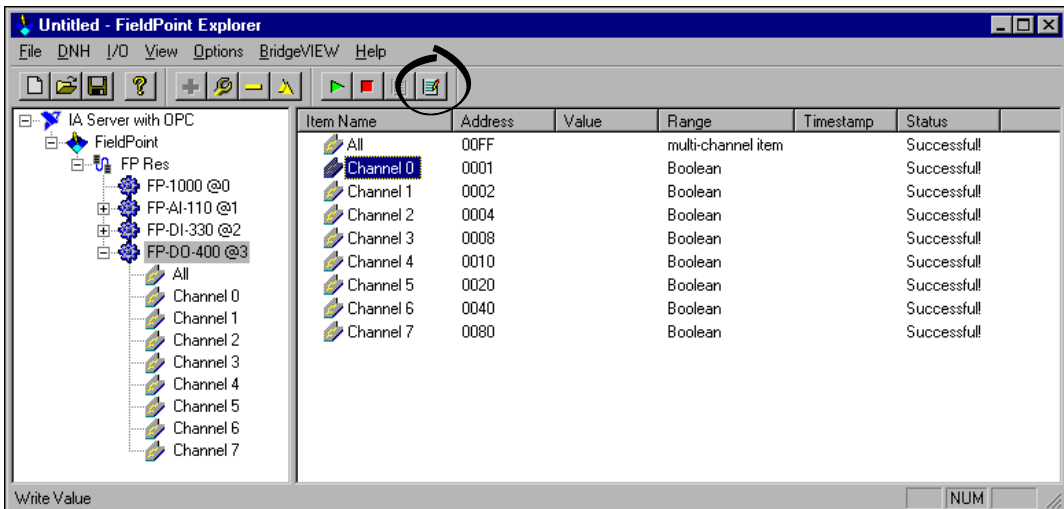

Figure 10. Items of the FP-DO-400 @3 Device
- Double-click on the **FP-DO-400 @3** device. The right section of the Explorer window displays the items, or channels, that are configured for the selected device, as shown in Figure 10.
- With Channel 0 selected, click on the **Write Value** button of the I/O toolbar, as shown in Figure 10.